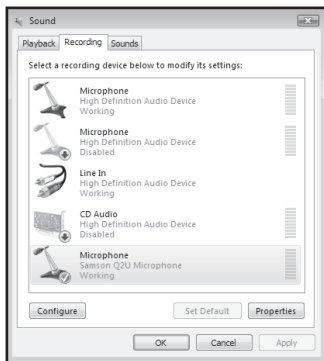

Figure 8
3. To set the Q2U as your default device for sound playback and recording, or to change its settings, click the **Start** button, click **Control Panel** and then click **Sound**. Under the **Playback** and **Recording** tabs, you can select the Samson Q2U from the menus and use the **Set Default** button to set it as the default device. (figure 8).
The most important characteristic of any microphone is its directionality or "pick-up pattern". There are three basic categories of pick up patterns; omni, bidirectional (or figure 8) and cardioid (or unidirectional). Omni mics pick up sound from all directions, bidirectional mics pick up the sound directly in front and back of the microphone while rejecting the sound on the left and right sides, and cardioid mics pick up the sound in front of the microphone. While omni and bidirectional microphones are very useful for a variety of applications, cardioid is desired for a majority of "miking" situations. The cardioid pick up pattern allows for better separation of instruments in the studio and more control over feedback in live sound reinforcement. When positioned correctly, the cardioid pick-up pattern allows you to pick up more of the sound you want and less of the sound you don't want.